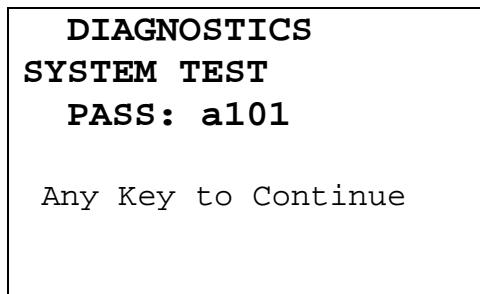

Figure 9-2 Diagnostics Screen if OK
When **DIAGNOSTICS** is selected, the system diagnostic testing will begin. The instrument's memories and the programs are checked and the results printed (if a printer is attached to the system) and displayed (Figure 9-2 Diagnostics Screen if OK). If any of the tests fail, contact Capintec's only Authorized Service Center at (800) ASK-4CRC.